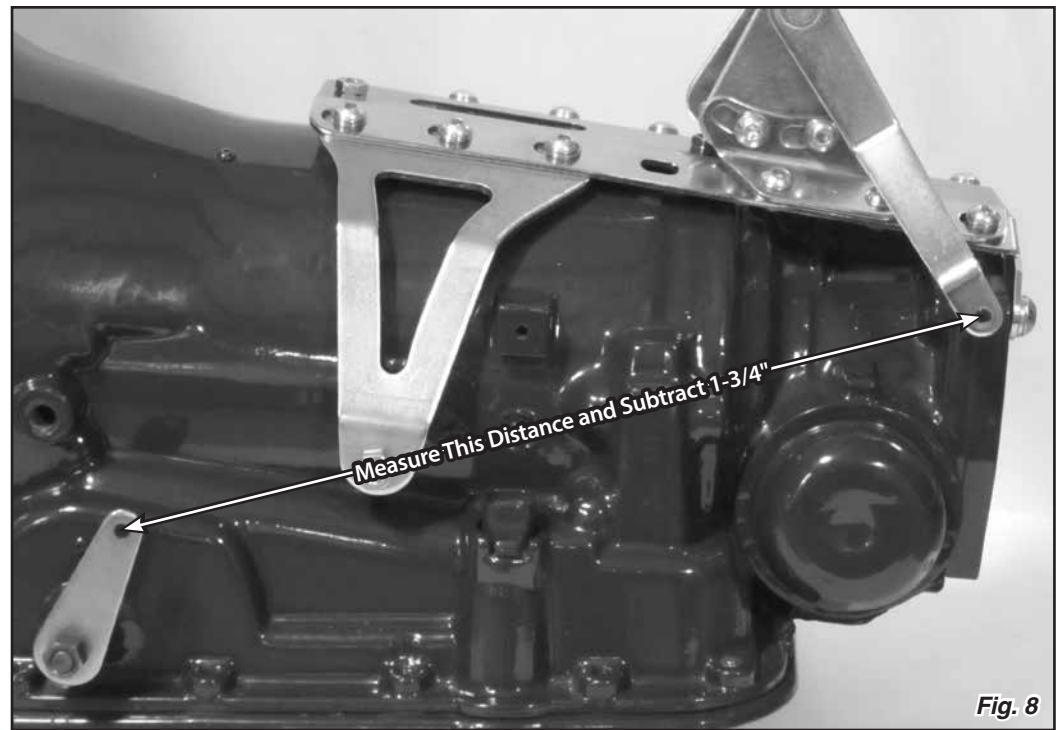

Fig. 8
- Verify that both the Shifter and the transmission are in the Park position. Measure center-to-center between the 1/4" holes in the trans gear lever on the transmission and the quad lever on the Shifter. Subtract 1-3/4". **Fig. 8** This is the length you will cut the threaded rod to. Use a hacksaw or other metal-cutting saw to shorten the threaded rod. Deburr the cut end.